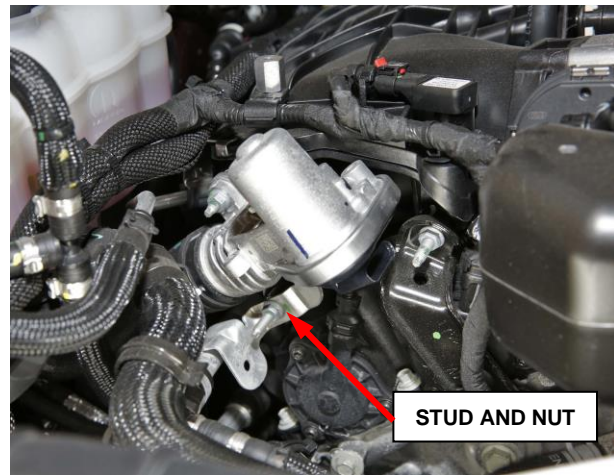

Figure 9 – Stud and Cooler Tube Bracket
12. Remove the nut from the stud and position the EGR cooler tube bracket aside (Figure 9).
4. Position the EGR tube bracket on the studs. Install the EGR cooler tube bracket nuts and tighten to 8N·m (71 in. lbs.) (Figure 9).